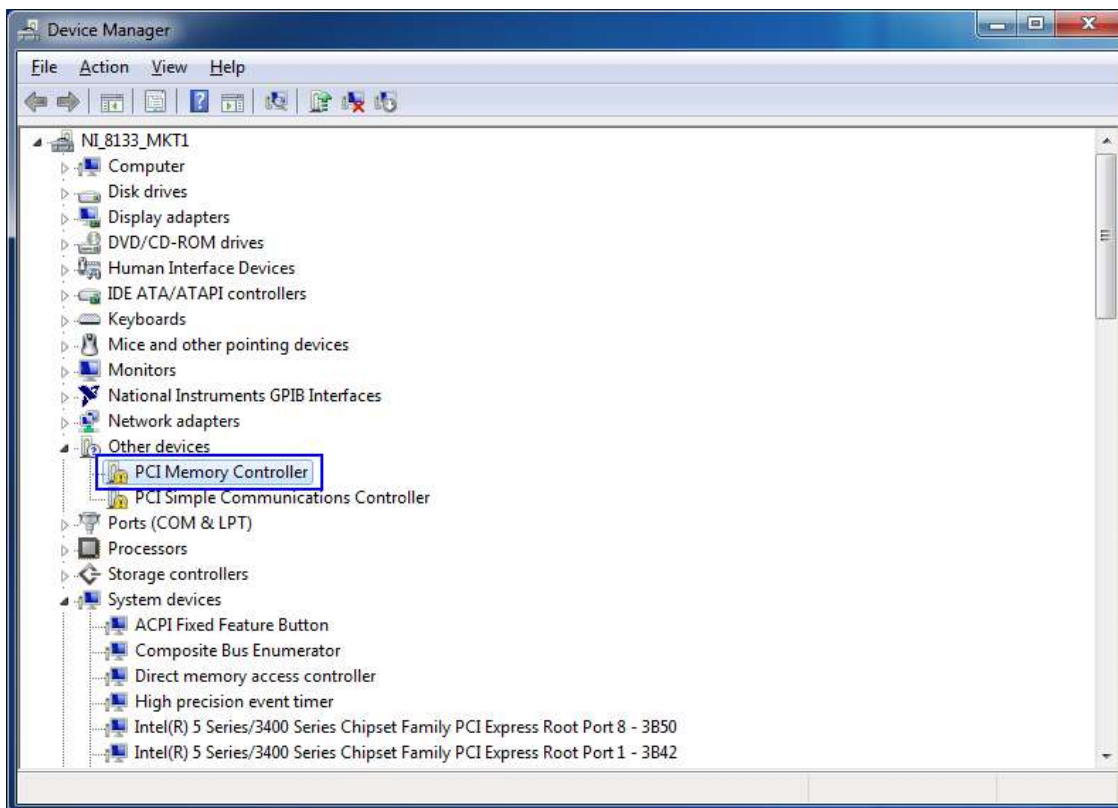

Figure 2.1. Device Manager
1. Open the Device Manager on the Test Control Unit. If the driver is not previously installed on the TCU, you can find the device named “PCI Memory Controller” in “Other devices” (Figure 2.1).